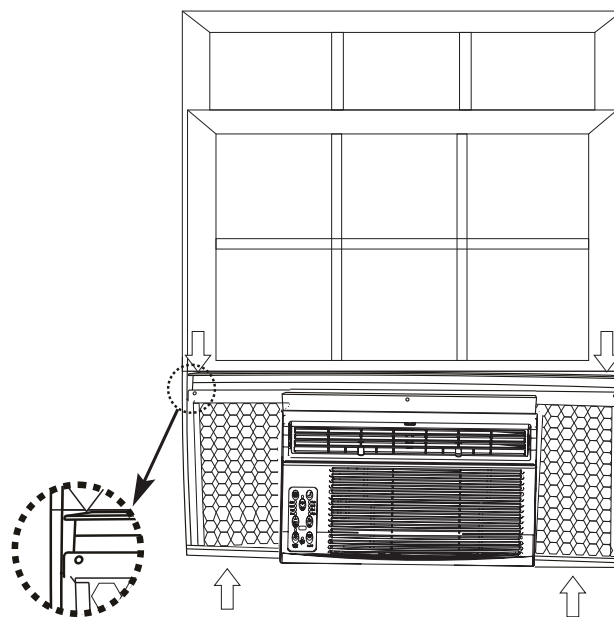

**Fig.22**
Step 3. Slide the R1 insulation panel into the side curtain, the side with pattern should facing the indoor side.(Fig.22).